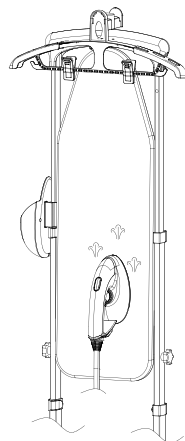

FIGURE 1
1. Fold up the Ironing Board in between the Telescopic Poles and lock into place by securing it between the two fold-down clips on the Pole Top as shown in Figure 1.